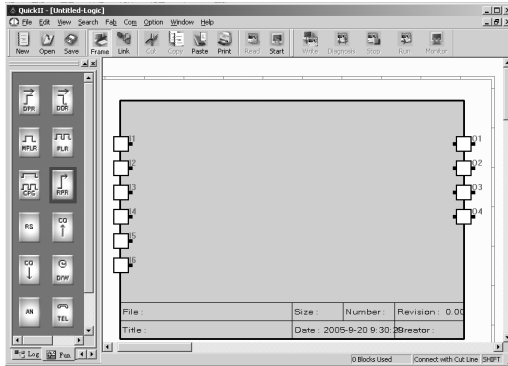
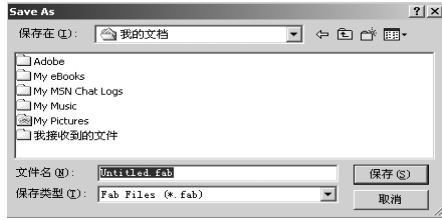

Fig 4.3
Fig 4.5
3. After its type is selected, click OK, here Save Box will appear as shown in Fig 4.5, you can select save path or select Cancel, Function Editing Box will appear as shown in Fig 4.3.